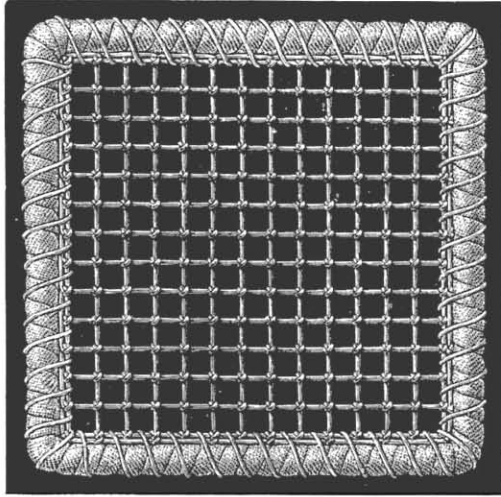

Fig. 11. Mounting net on the metal frame without webbing.
**Mounting the net on the wire frame without a braid.** (fig. 11). — When the net is exactly the size of the inside of the frame it need only be fastened in with overcasting stitches, set more closely together at the corners.